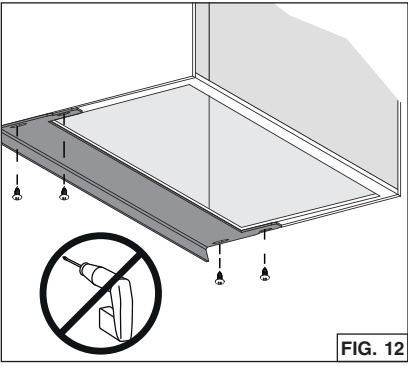

FIG. 12
7. There are 3 different sizes of filler included with these units, designed to fit up to 13-in. depth cabinets. For up to 15-in. depth cabinets, another set of 4 fillers is available (order HADTBN30). Choose the filler that fits to cover the back bottom edge of the cabinet. Use 4 no. 6 x 1/2" truss head wood screws (included) to mount it (FIG. 12).